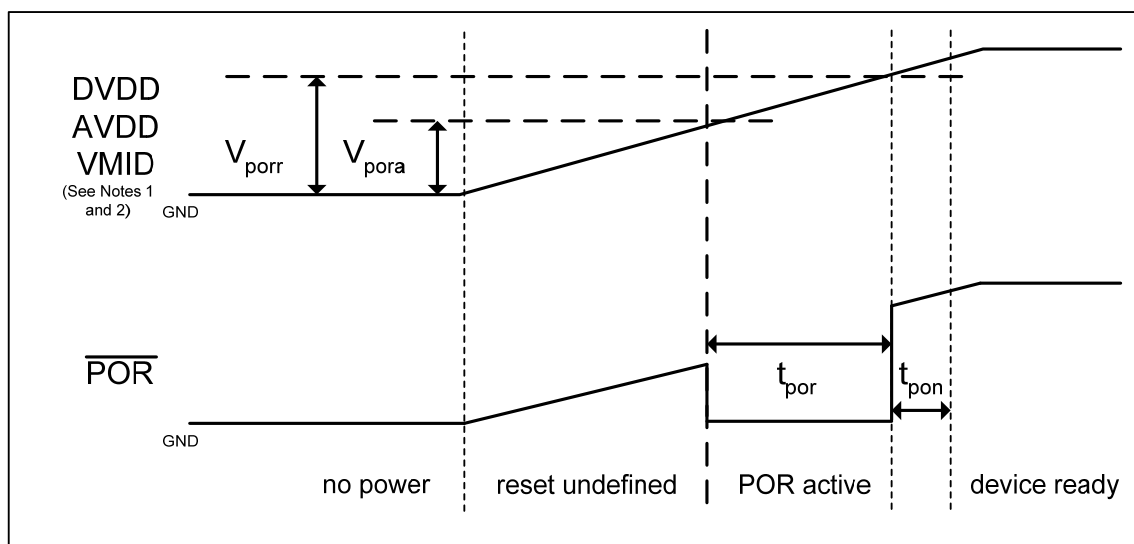

Figure 10 Power Supply Timing Requirements – power-on
1. POR is activated when DVDD or AVDD or VMID reach their stated V_{pora} level (Figure 10).
2. POR is only released when DVDD and AVDD and VMID have all reached their stated V_{porr} levels (Figure 10).